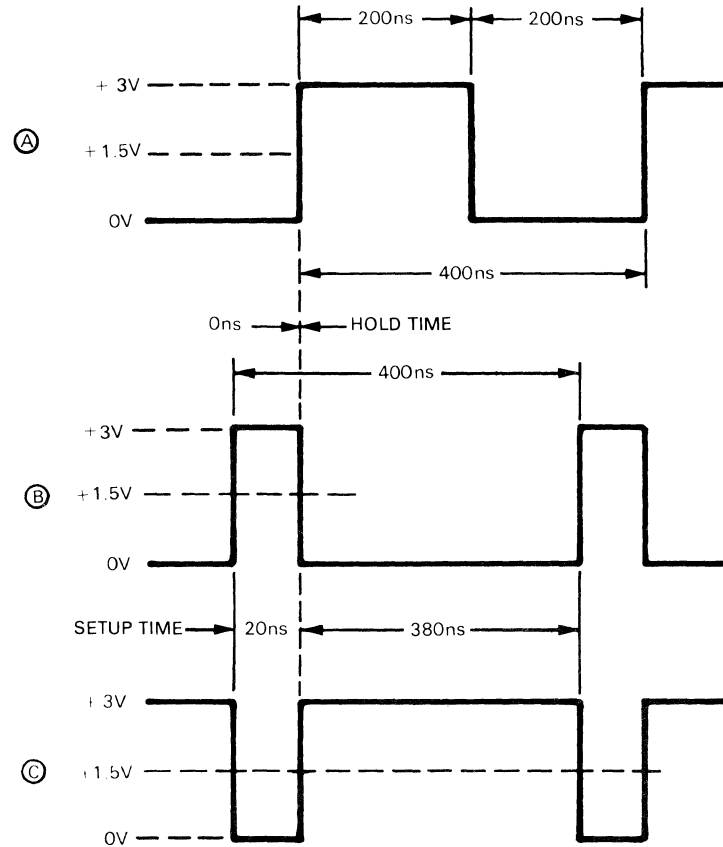

Figure 4-12. Qualifier Setup and Hold Time Test Waveform
- Adjust pulse generators 1 and 2 for output waveforms A and B respectively as shown in figure 4-12.
- i. Change pulse generator number 2 for output waveform C as shown in figure 4-12.